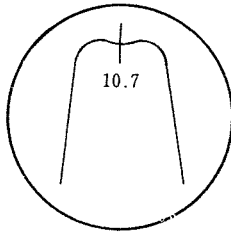

Fig. 3
- Set the frequency of the sweep generator to 10.7 MHz, and apply output from the generator. Adjust T101 until the scope pattern illustrated in Figure 3 is obtained.